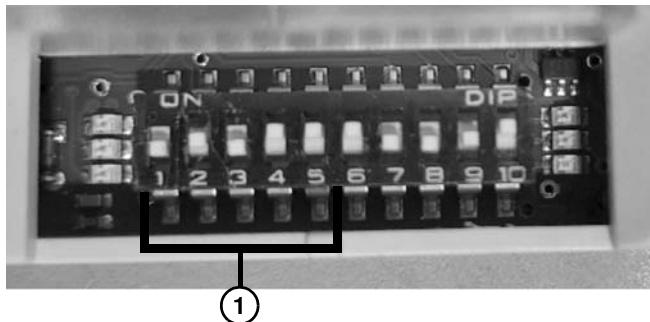

Figure 24
- Speed: DIP Switches 1-5 (**Figure 24, item 1**). and switch settings chart **Figure 25**).